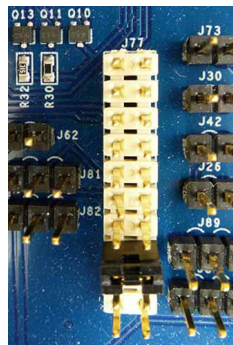

Figure 54.
- Jumper J88 Pin 2 to J88 Pin 1 (VCC) to command continuous conduction mode (CCM) or J88 Pin 2 to J88 Pin 3 (GND) to command diode emulation mode (DE).
- Jumper J77 Pin 5 to J77 Pin 6 to command PWM\_EN, see Figure 54. Avoid bounce to this connection.